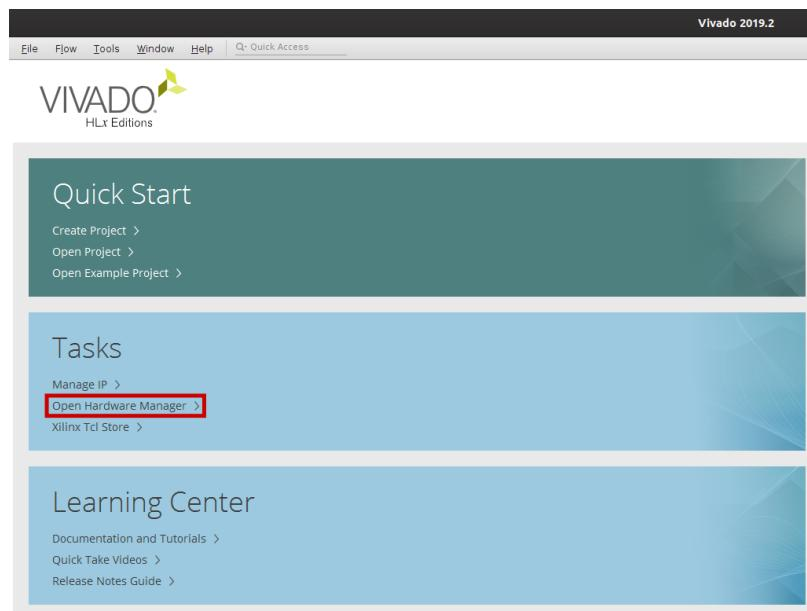

Figure 111. Open Hardware Manager
- Open the *Hardware Manager* available in Vivado and highlighted in Figure 111.